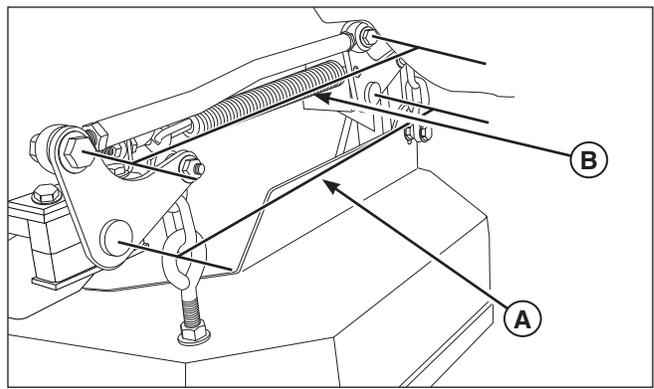

Figure 37. Measure the Lift Pivots and Rod Pivots
2. Measure and record the distance between the lift pivots and the rod pivots. Repeat for the other side of the unit. See Figure 37.